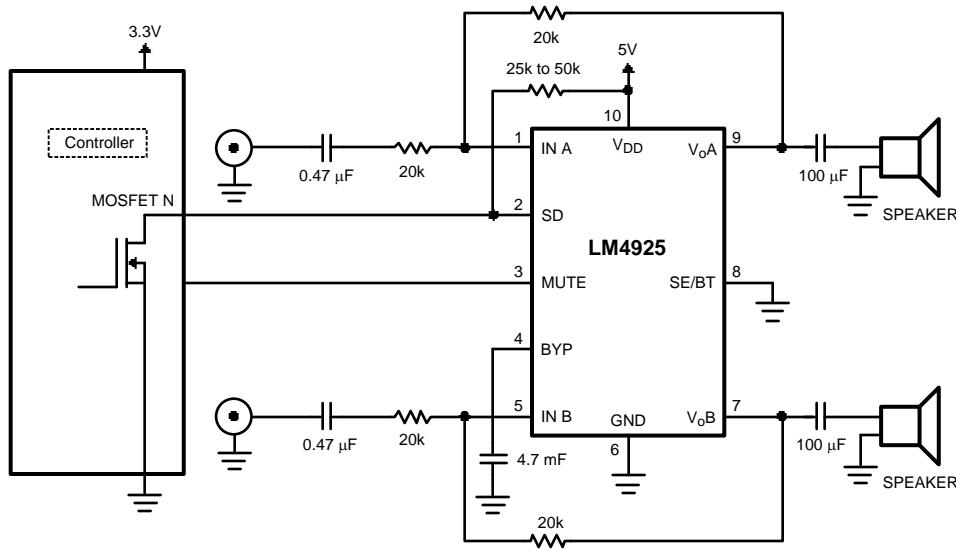

Figure 30. Recommended Circuit for Different Supply Turn-On Timing
The LM4925 can be configured for either single ended (see Figure 4) or BTL mode (see Figure 5). When the  $\overline{SE/BTL}$  pin has a logic high ( $V_{DD}$ ) applied to it, the LM4925 is in BTL mode. If a logic low (GND) is applied to  $\overline{SE/BTL}$ , the LM4925 operates in single-ended mode. The slew rate of  $V_{DD}$  must be greater than  $2.5\text{V/ms}$  to ensure reliable Power on reset (POR). The circuit shown in Figure 30 presents an applications solution to the problem of using different supply voltages with different turn-on times in a system with the LM4925. This circuit shows the LM4925 with a  $25\text{-}50\text{k}\Omega$  Pull-up resistor connected from the shutdown pin to  $V_{DD}$ . The shutdown pin of the LM4925 is also being driven by an open drain output of an external microcontroller on a separate supply. This circuit ensures that shutdown is disabled when powering up the LM4925 by either allowing shutdown to be high before the LM4925 powers on (the microcontroller powers up first) or allows shutdown to ramp up with  $V_{DD}$  (the LM4925 powers up first). This will ensure the LM4925 powers up properly and enters the correct mode of operation (BTL or SE). Please note that the  $\overline{SE/BTL}$  pin should be tied to GND for single-ended (SE) mode, and to  $V_{dd}$  for BTL mode.